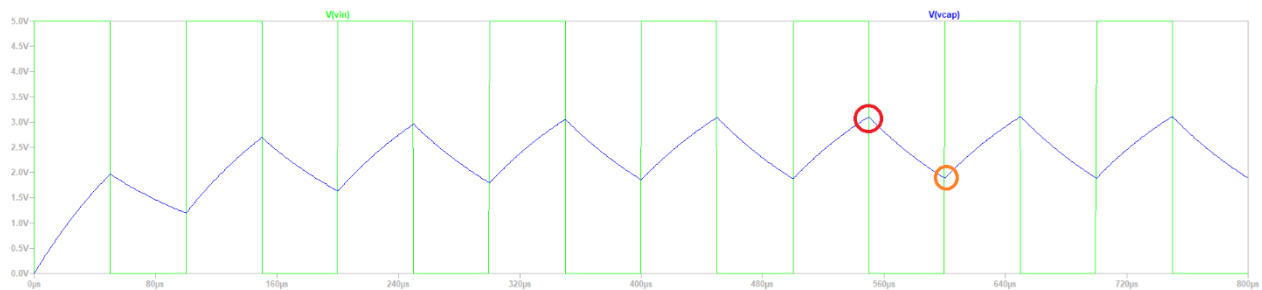

Figure 10: Simulation for 100us square wave.
- The waveform window will now display a dotted crosshair. Click and drag the crosshair to the peak of Vcap circled in red in Figure 10 while noting the yellow “1” shown while moving the cursor.
- Add a second cursor and position it at the orange circle shown in Figure 10 noting the yellow “2” while moving the cursor.